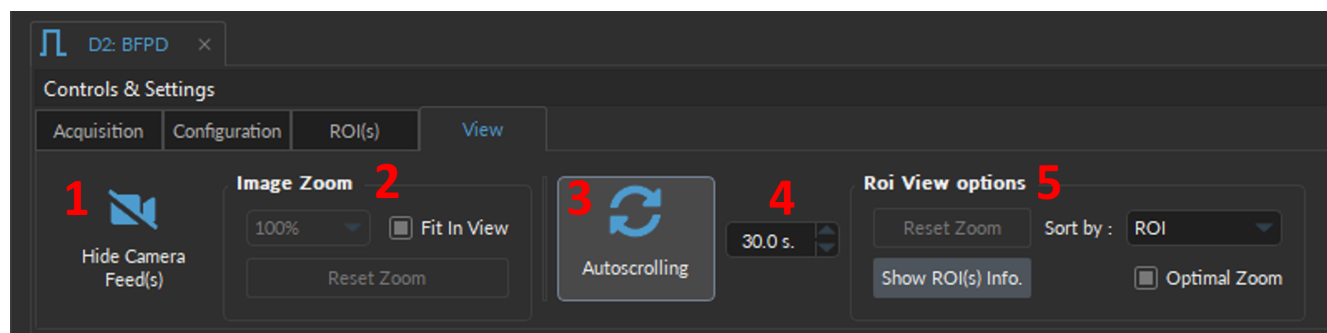

Figure 13.11: View Tab
The **View Tab** (Fig. 13.11) is used to modify the presentation of graphs in the **Acquisition view**.
1. The **Hide Camera Feed(s)** button (Fig. 13.11, 1) will remove the **Camera View** from the **Acquisition View**, automatically enlarging the **ROIs View**. Disabling the same button (renamed **Show Camera Feed(s)**) makes the **Camera View** reappear.
2. The **Image Zoom** (Fig. 13.11, 2) includes the following:
3. The **Autoscrolling** button (Fig. 13.11, 3), when selected, automatically sets the graphs to scroll as new data appears.
4. the **Autoscrolling range** (Fig. 13.11, 4) sets the graph zoom to the value of choice, specified in the text-box.
5. The **ROI View Options** (Fig. 13.11, 5) includes the following: